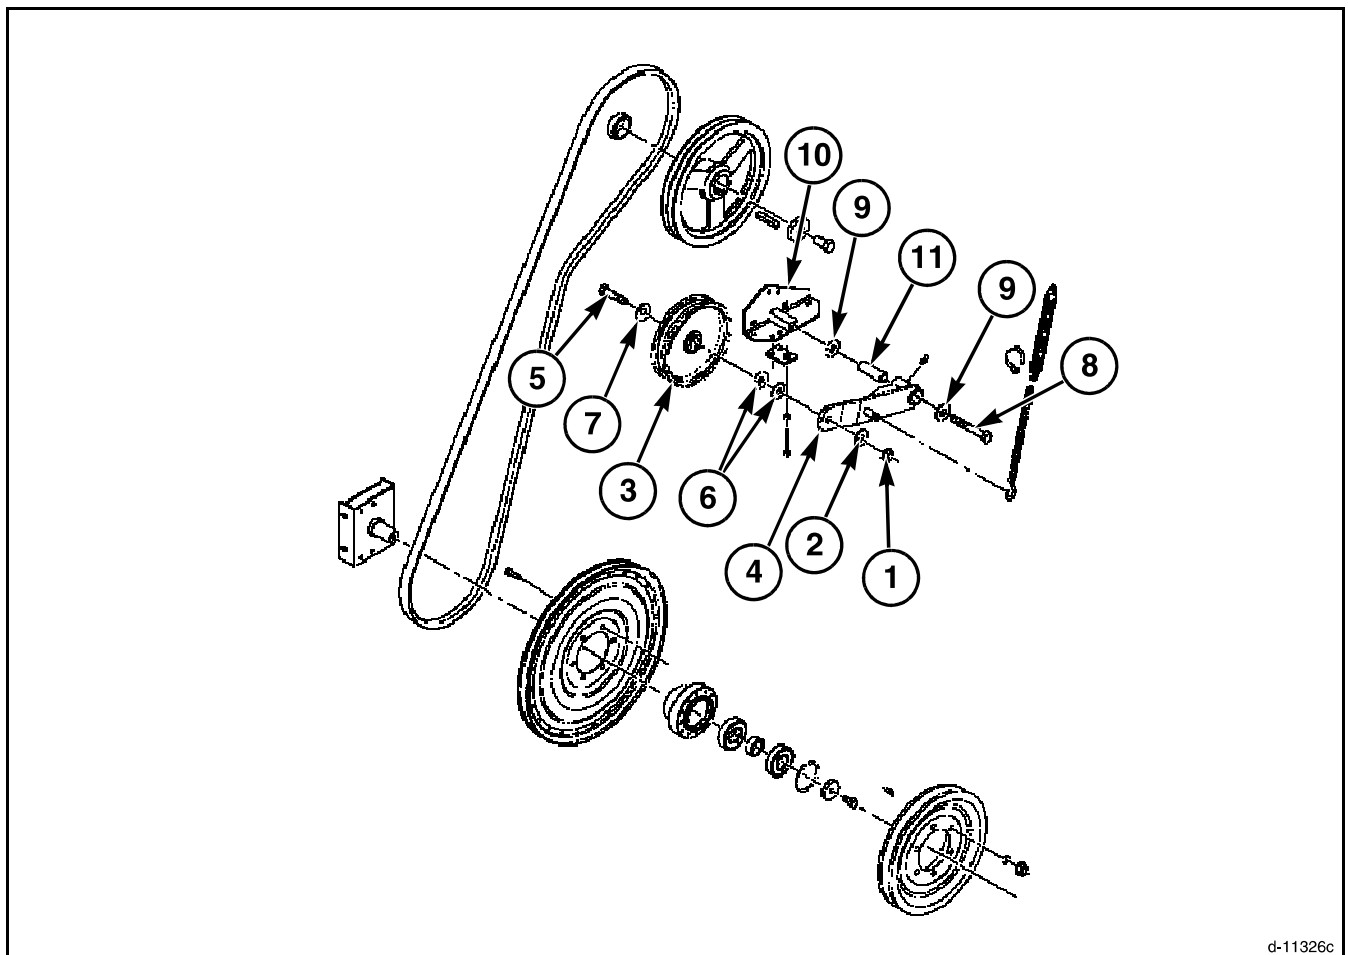

FIG. 167
FIG. 167: Grease the outside diameter of the idler pivot sleeve (11). Install a wide washer (9) onto the pivot bolt (8) and then slide the idler pivot sleeve over the pivot bolt. With the spring anchor pin in the idler arm assembly (4) facing out, slide the idler arm assembly onto the idler pivot sleeve. Install a wide washer (9) onto the pivot bolt against the inside surface of the idler arm assembly. Install the pivot bolt into the mounting plate (10) and tighten the pivot bolt securely.